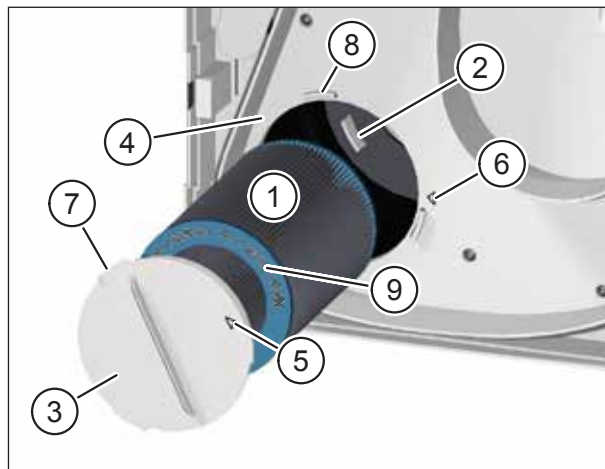

Fig. 22: Inserting the new outdoor air filter
- ▶ Carefully guide the new outdoor air filter (item 1 in Fig. 22) into the ventilation unit.
- ▶ Make sure that the air filter slides into the 3 retaining tabs (item 2 in Fig. 22) on the back wall of the ventilation unit.
- ▶ Place the filter cover (item 3 in Fig. 22) on the outdoor air filter. Make sure that the filter cover lies flat on the intermediate plate (item 4 in Fig. 22).
- ▶ Turn the filter cover clockwise until the arrow on the filter cover (item 5 in Fig. 22) lines up with the arrow for the locking position (item 6 in Fig. 22). Make sure that the 3 tabs (item 7 in Fig. 22) on the filter cover engage in the retainers (item 8 in Fig. 22) on the intermediate plate.
- Only M-WRG-II FA, part no. 750010, and M-WRG-II FK (activated charcoal filter), part no. 750020, may be used as the outdoor air filter. The part no. and air filter class are imprinted on the turquoise end plate of the air filter (item 9 in Fig. 22).